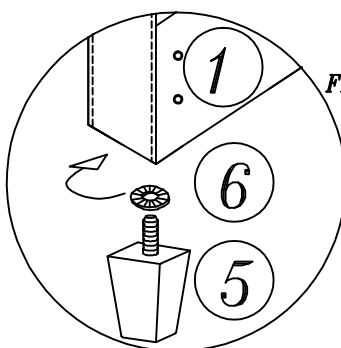

FIGURE 1
- Step 1** • Place plastic washer (6) over screw on wood leg (5) and secure under headboard (1) and footboard panel (2). SEE FIGURE 1